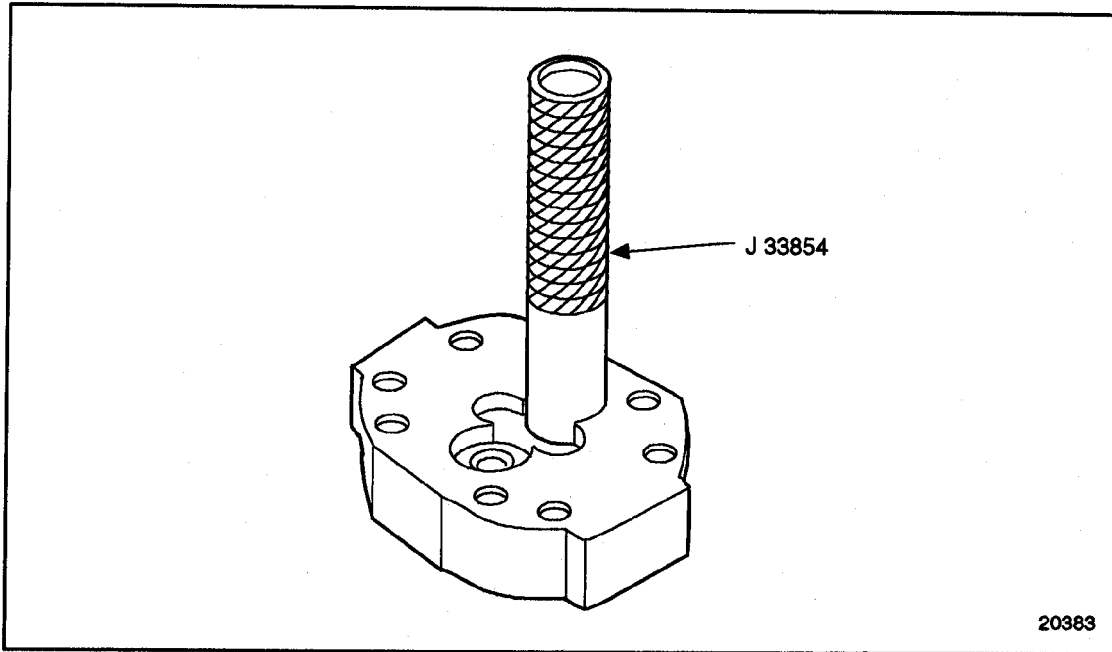

Figure 2-37 Bearing Assembly Installation
14. With the pump cover on a bench, inside face up, position a new needle bearing assembly on bearing installer, J 33854, with the bearing numbers against the installer. Position the bearing carefully on a shaft bore in the cover and with a light hammer drive the bearing into the bore until the installer is flush against the cover surface. See Figure 2-37. Repeat the procedure, installing a new bearing assembly in the remaining shaft bore.